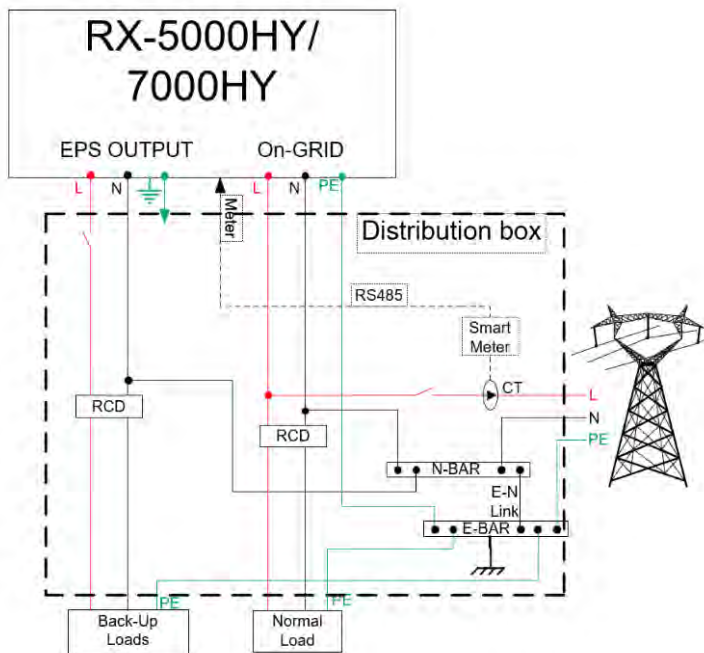

Figure 5.8.1 - RX-7000HY/5000HY 240V electrical connection with EPS
1. If you need to use both the grid and backup power functions, refer to Figure 5.8.1 for connection details.